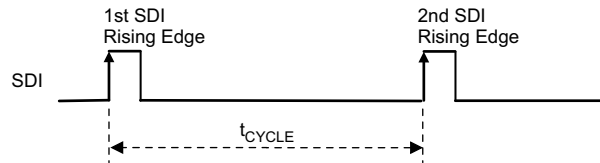
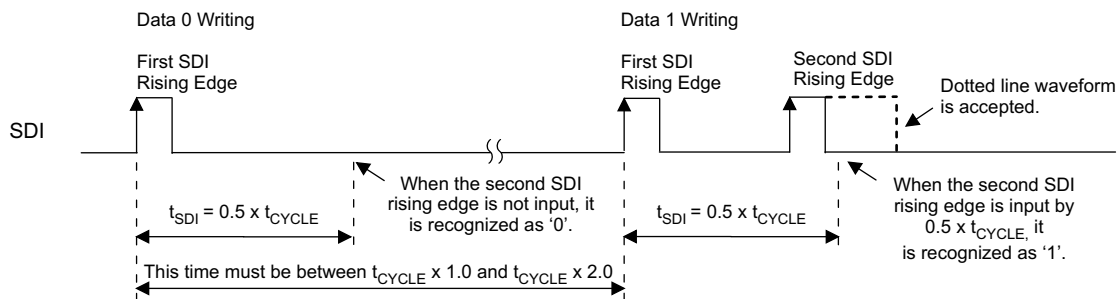

Figure 18. Data Transfer Rate (t_{CYCLE}) Measurement
Figure 19. Data '0' and '1' Write Operation
The TLC5973 measures the time between the first and second SDI rising edges either after the device is powered up or when the GS data latch sequence is executed (as described in the GS Data Latch Sequence \(GSLAT\) section) and the time is internally stored as t_{CYCLE} . t_{CYCLE} serves as a base time used to recognize one complete data write operation, a 48-bit data write operation, and a GS data write operation to the GS data latch. t_{CYCLE} can be set between $0.33 \mu\text{s}$ and $10 \mu\text{s}$ ($f_{\text{CLK(SDI)}} = 100 \text{ kHz}$ to 3000 kHz). In this sequence, two instances of data '0' are written to the LSB side of the 48-bit shift register. Figure 18 shows the t_{CYCLE} measurement timing.
When the second SDI rising edge is not input before 50% of t_{CYCLE} elapses from the first SDI rising edge input, the second rising edge is recognized as data '0'. When the second SDI rising edge is input before 50% of t_{CYCLE} elapses from the first SDI rising edge input, the second rising edge is recognized as data '1'. This write sequence must be repeated 46 times after the t_{CYCLE} measurement sequence in order to send the write command to the lower 10-bit (3AAh) and 48-bit GS data. Figure 19 shows the data '0' and '1' write timing.
2. Write the 48-bit data packet (MSB-first) for the first device using t_{CYCLE} and the data write sequences illustrated in Figure 18 and Figure 19. The first 12 bits of the 48-bit data packet are used as the write command. The write command must be 3AAh (001110101010b); otherwise, the 36-bit GS data in the 48-bit shift register are not copied to the 36-bit GS data latch.